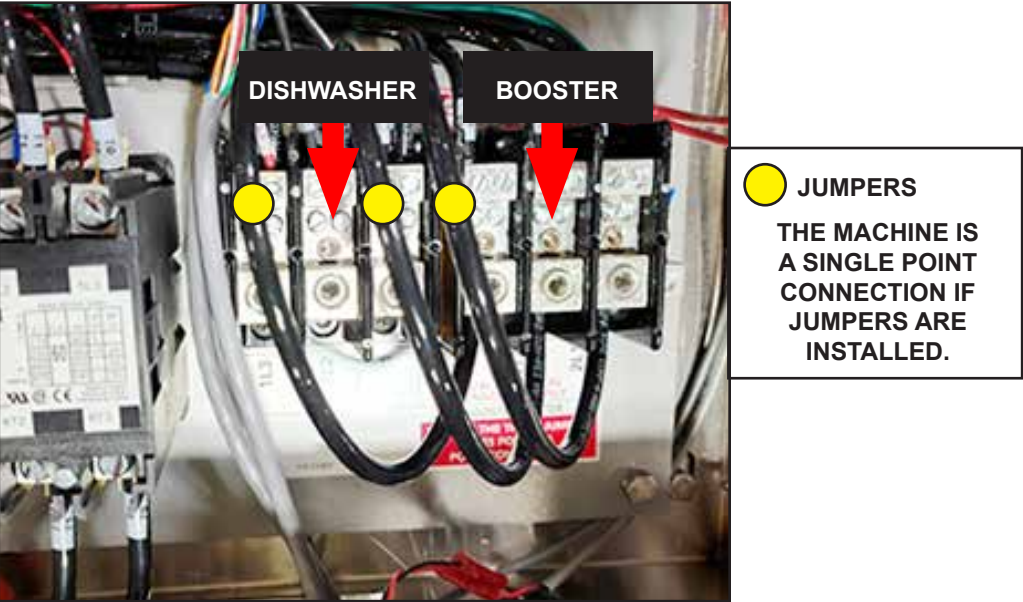

Fig. 25 -
3. There are three jumper wires connected between the dishwasher and booster terminal blocks. Refer to Fig. 25 on page 15.